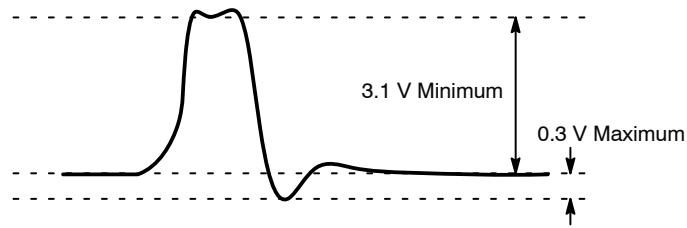

Figure 9. RG Clock Overshoot
21. Reset Clock Operation: The RG1, RG23 signals must be capacitive coupled into the image sensor with a 0.01 µF to 0.1 µF capacitor. The reset clock overshoot can be no greater than 0.3 V, as shown in Figure 9, below.